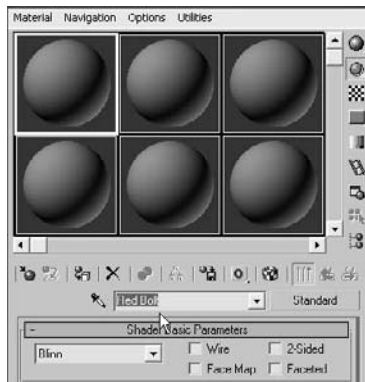

Figure 7.69
1. Open the Material Editor and select a sample sphere. We will start with the Red material for the bolt. Name the material **Red Bolt**, as shown in Figure 7.69.